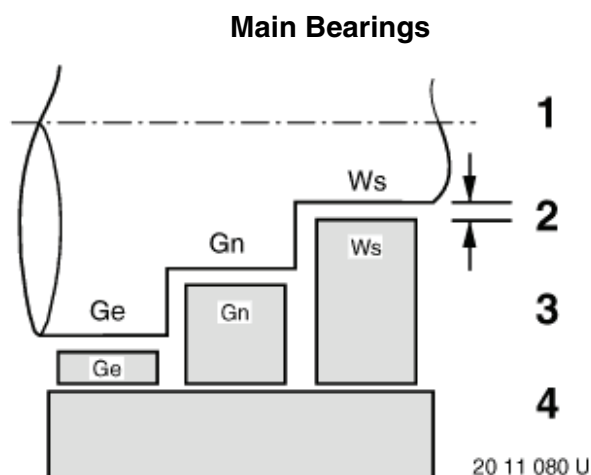
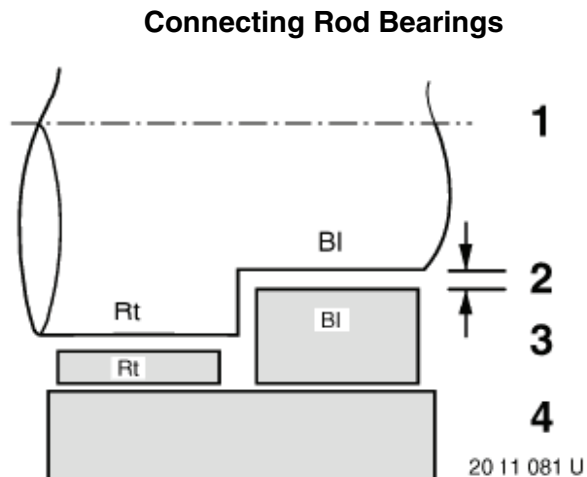

Figure 5-111
Figure 5-112
7. **Figure 5-111** and **Figure 5-112** show the relationship of each color coding compared to diameter. If necessary, install bearing inserts having a different color coding.